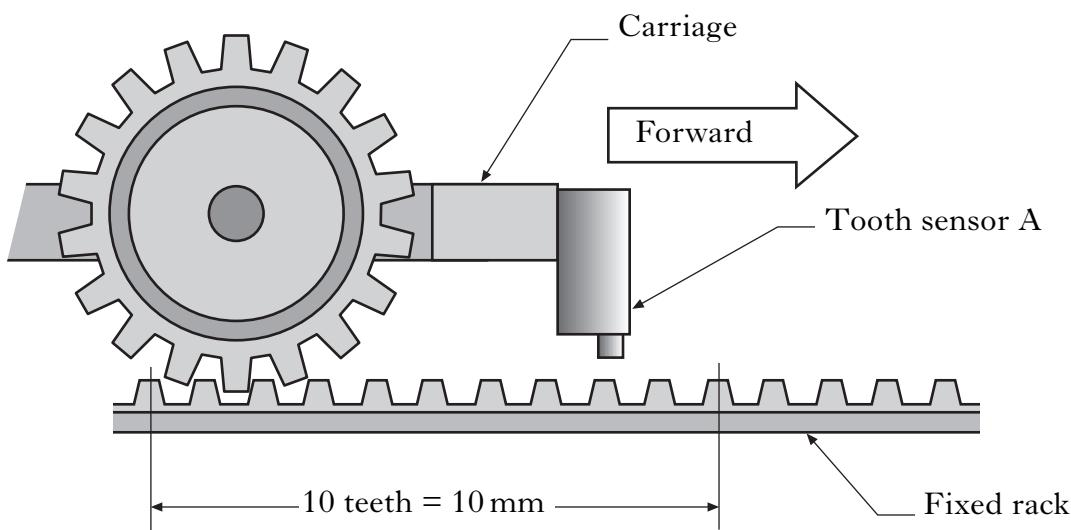

Figure Q9
9. Figure Q9 shows a rack system which uses a fixed rack and a carriage which moves along the rack.